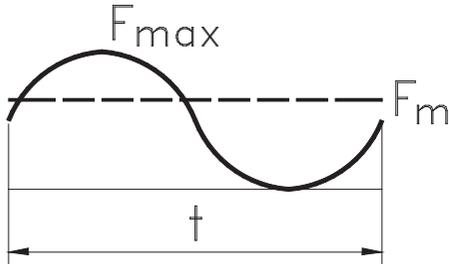

Fig. 6.4
- b) The load changes its magnitude in a sine wave-form course between two extreme values (fig. 6.4).